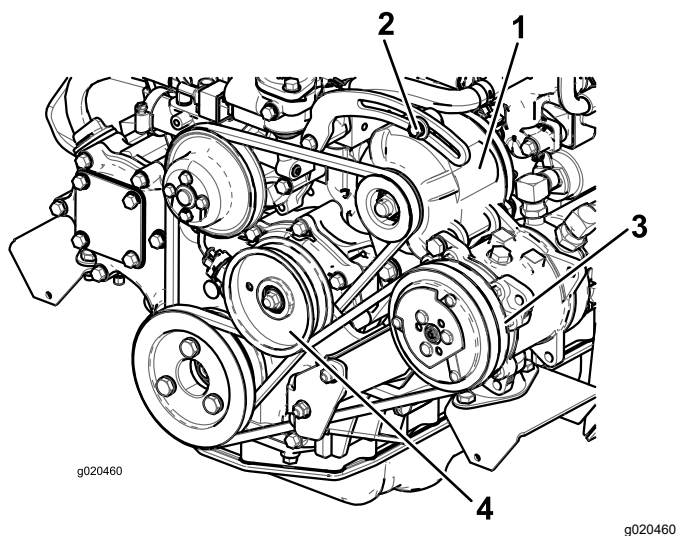

Figure 82
If the deflection is not 10 mm (3/8 inch), loosen the alternator-mounting bolts (Figure 82).
Check the condition and tension of the belt (Figure 82) after every 100 operating hours.
2. If the deflection is not 10 mm (3/8 inch), loosen the idler pulley mounting bolt (Figure 82). Increase or decrease the compressor belt tension and tighten the bolt. Check the deflection of the belt again to ensure that the tension is correct.